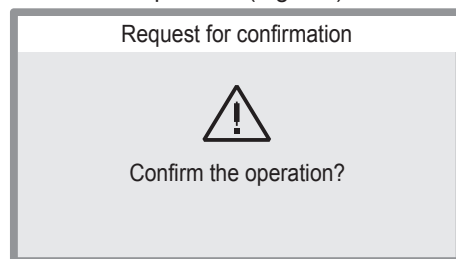

Fig. 3.5
- Press key 12 and wait 1 second.
- Press key 12 again.
- Press key 13 to reset the fault or key 14 to cancel the operation (Fig. 3.5).